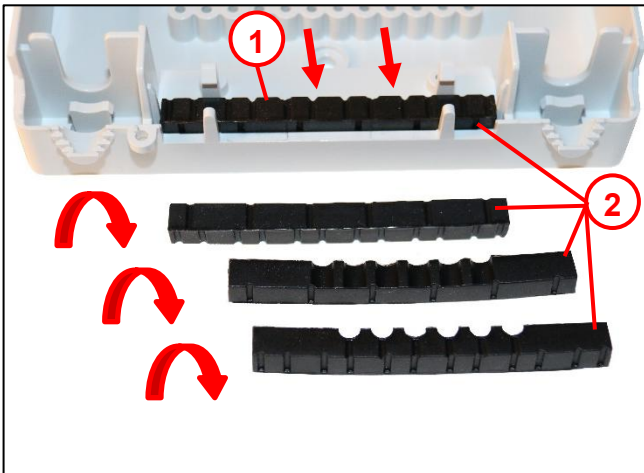

Fig. 8
- Insert 2x rubber grommets (1) into the fixture provided.
- Rotate the rubber grommets by 90° each for different cable diameters (see example in Fig. 8).